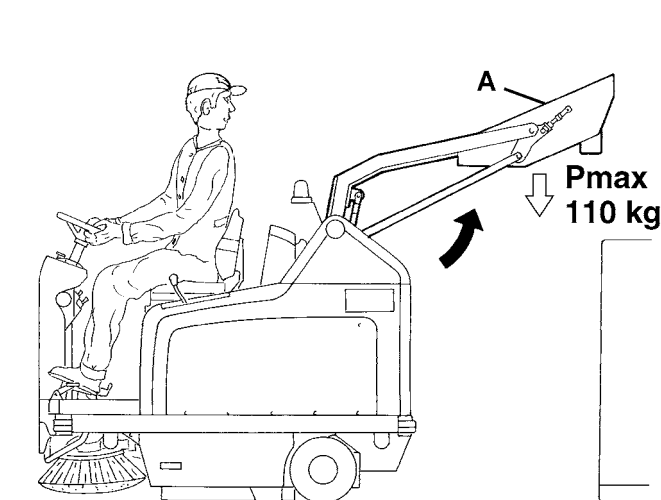

Figure 1
3. Keep people away from the machine and from the hopper (4) especially.
4. Press the enabling switch (51) and the hopper lifting switch (57) at the same time to lift the hopper (A, Fig. 1) up to the desired position.
5. Press the enabling switch (51) and the hopper dumping switch (58) at the same time, and discharge all the debris in the dustbin (A).
The hopper (A, Fig. 1) can be dumped only when lifted at a minimum height of 300 mm.